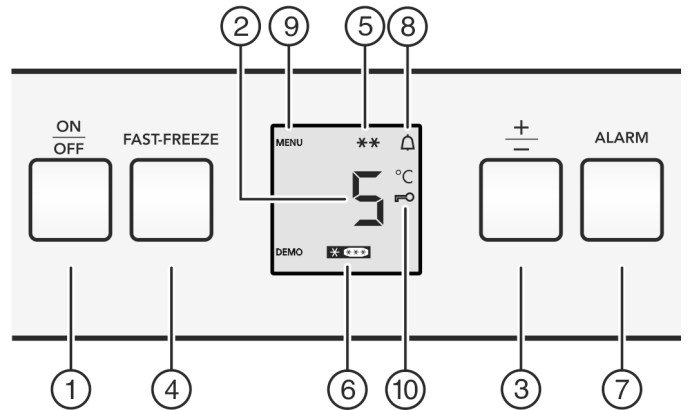

Fig. 2
- ▶ Press the On/Off button Fig. 2 (1).
- ▶ Press the Fast-Freeze button Fig. 2 (4) for approx. 5 seconds.
- ▷ The menu symbol Fig. 2 (9) is indicated in the display.
- ▶ Briefly confirm using the Fast-Freeze button *Fig. 2 (4)*.
- ▷ The child lock symbol *Fig. 2 (10)* illuminates in the display.
- ▶ Briefly press the ON/OFF button *Fig. 2 (1)*.
- ▶ Press alarm button *Fig. 2 (7)*.
The temperature display and the alarm symbol *Fig. 2 (8)* flash at the same time.
The audible alarm is automatically silenced, the alarm symbol *Fig. 2 (8)* goes out and the temperature display stops flashing when the temperature is sufficiently cold again.
- ▶ Call up the temperature function: Press the "+/-" setting button *Fig. 2 (3)*.
- ▶ Change the temperature in 1 °C steps: Press the "+/-" setting button *Fig. 2 (3)* until the required temperature is indicated in the temperature display.